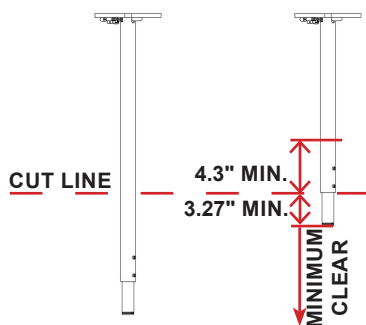

FIGURE 2.23 - Minimum Clearance
STEP 4: Cut the spacer tube, deburr as required to remove sharp edges. Refer to FIGURE 2.23